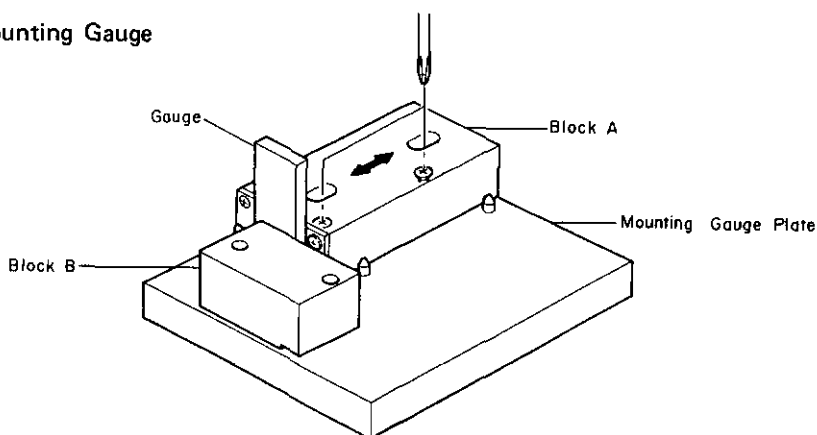
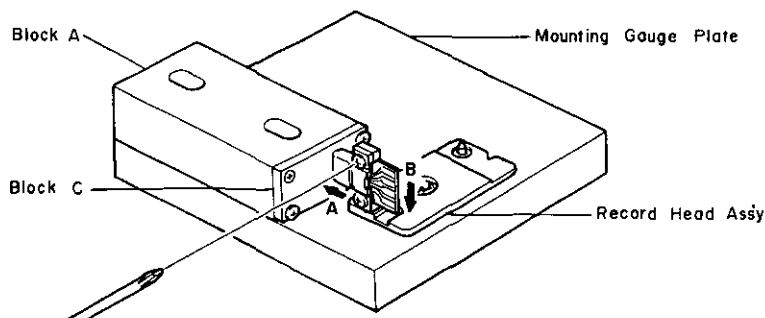

Fig. 4.22
Fig. 4.23
Refer to Figs. 4.22 and 4.23.
- (1) Check the accuracy of the record head stroke.
- (2) Remove Head Mount Base Ass'y referring to item 2.29.
- (3) Remove the record head assembly.
- (4) Adjustment of Record Head Mounting Gauge M-9048 (DA09048A)
- (c) As shown in Fig. 4.22 hold the Gauges (3.05 mm and either one of 0.05, 0.15, 0.2, 0.25, 0.3 or 0.35 mm thickness) between the Block A and Block B, and fix the Block A with screws, pushing the Block A to the 2 guide pins.
- (5) Remove the Block B from the Mounting Gauge Plate.
- (6) As shown in Fig. 4.23, mount the R-8L record head assembly onto the Mounting Gauge Plate, then check the location of the R-8L record head surface. (If record head contacts to the Block C, loosen 2 pcs. of screws that assemble record head and record head plate, then place the R-8L record head assembly onto the Plate.)
- (7) Remove the R-8L record head assembly from the Mounting Gauge Plate.
- (8) Readjustment of Record Head Mounting Gauge M-9048 (DA09048A)
- (9) Remove the Block B from the Mounting Gauge Plate.
- (10) Mount the R-8L record head assembly onto the Mounting Gauge Plate.
- (11) As shown in the Fig. 4.23, loosen 2 pcs. of screws that assemble record head and record head plate. As the location of the Block A is secured by the item (8)-(c), push the record head to the directions A and B, then tighten 2 pcs. of screws.
- (12) Check to insure freedom from gap between the Block C and record head surface, then tighten the 2 pcs. of screws on the record head assembly with lock tight paint.
- (13) Remove the R-8L record head assembly from the Mounting Gauge Plate.
- (14) Assemble the record head assembly to the head mount base assembly.
- (15) Assemble the head mount base assembly to the mechanism assembly.
- (16) Check the record head stroke.